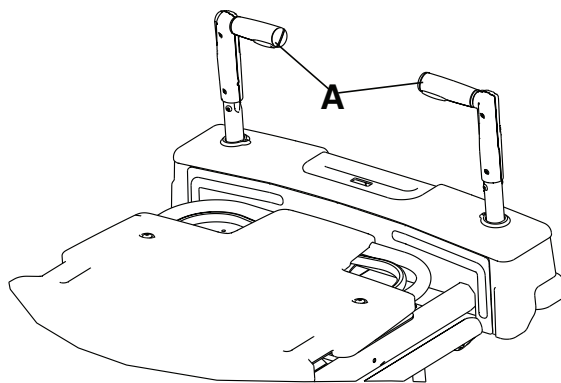

Figure 13 – Zoom handles in the raised position
4. Turn the **On/Drive-Off/Manual** switch (B) to the **On/Drive** position.
7. If the **Zoom** handles are in the stowed position, pull the **Zoom** handles up to the raised position then push down on the **Zoom** handles to lock into position (Figure 13).